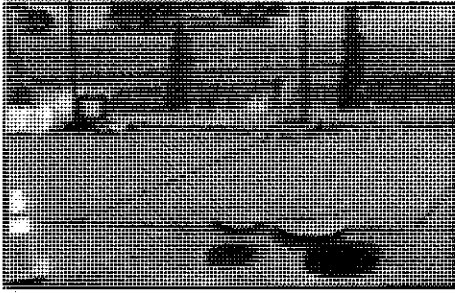

Figure 4
2. Remove the lids to the manhole. Figure 4. (NOTE: The 4-ft Downstream Defender® will only have one lid).